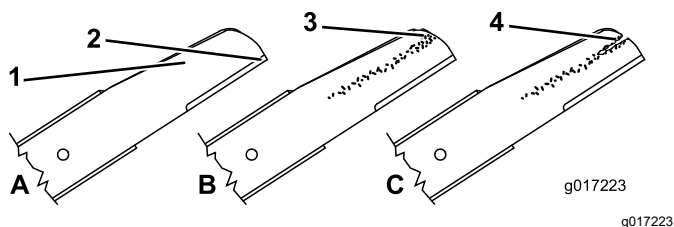

Figure 27
1. Inspect the cutting edges (Figure 27). If the edges are not sharp or have nicks, remove the blades and have them sharpened or replace them.
2. Inspect the blades themselves, especially the curved area (Figure 27). If you notice any damage, wear, or a slot forming in this area, immediately replace it with a new blade.